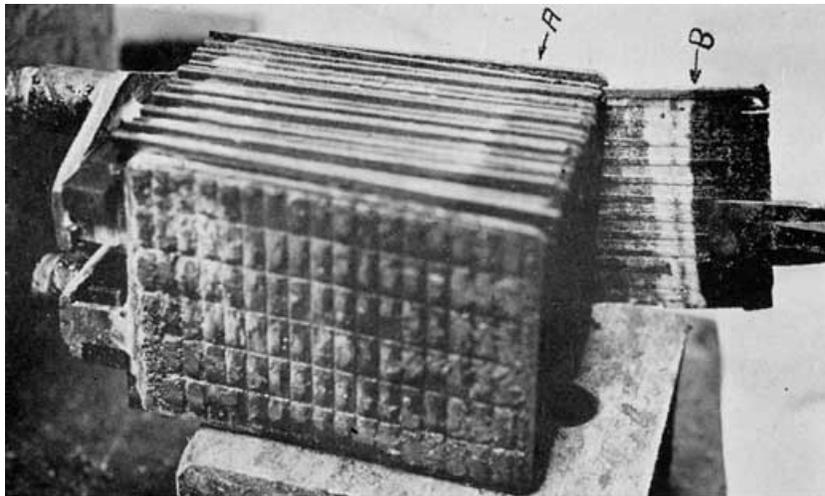

Fig. 201. Element on Block for Examination
Place an element on a block of wood as shown in Fig. 201. Carefully pry the plates apart so that you can look down between them and make a fair preliminary examination. Whenever possible, make your examination of the plates without separating the groups or removing the old separators. This should be done because:
**4. A battery which has been dry and badly sulphated** at some past period of its life will have tile dry portion.", covered with a white sulphate, tile acid line being clearly distinguishable by this white color, as shown at A and B in Fig. 201. If the plates are otherwise ill good shape and you wish to use them, give them the "water cure" described on page 349.
**7. Dry, hard, and white, long discharged, and badly sulphated plates**, Figs. 201 and 209, are practically ruined, though if the trouble is not of long standing, the plates may be revived somewhat by a long charge at a very low rate, using distilled water in place of the electrolyte, and then discharging at a current equal to about one-eighth to one-tenth of the ampere hour capacity of the battery at the discharge board. Charge and discharge a battery a number of times, and you may be able to put a little "pep" into it. In charging sulphated plates, use a low charging rate, and do not allow gassing before the end of the charge, or a temperature of the electrolyte above 110°F.
1. Whenever the pores are closed by any foreign matter whatsoever. Put in new separators whether you can figure out the cause of the trouble or not. The separator shown in Fig. 201 is sulphated clear through above the line B, and is worthless. The separator shown in Fig. 203 should not be used again.
4. When a battery has been used while the level of the Fig. 214. Separators Worn Thin and Cut Through on Edges by Buckled Plates. Holes Worn Through by Bulged Active Material. Center One Shows Cell Was Dry Two Thirds of the Way Down electrolyte has been below the tops of the plates, or the battery has been used in a discharged condition, and lead sulphate has deposited on the separators, Fig. 201.
2. There is another case where the groups must be separated and new separators inserted before they will take charge, and that is where the battery has suffered from lack of water and has sulphated clear through the separators, Fig. 201. The separators will be covered with white sulphate. Chemical action is very sluggish in such cases.